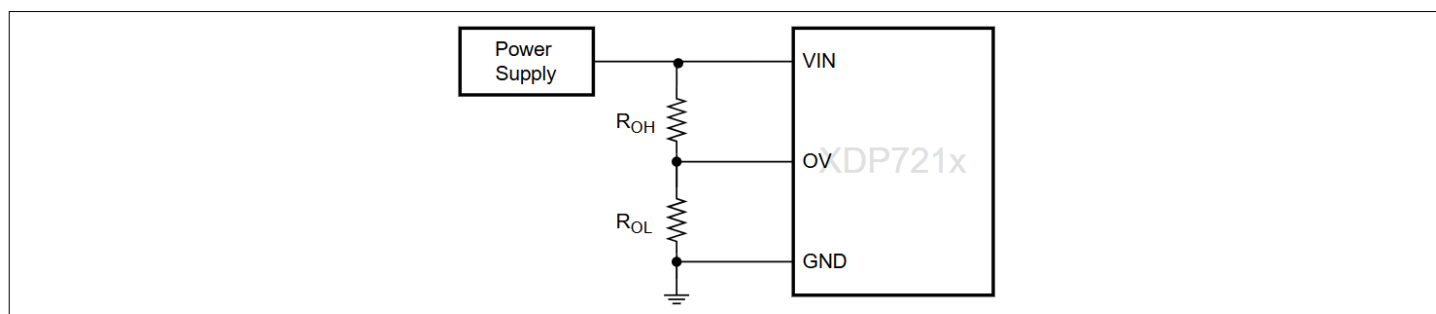

Figure 6 Input overvoltage protection
Similar to input undervoltage, the XDP721 has input overvoltage protection for monitoring the maximum input voltage. When the OV pin voltage rises to/above V_{OV_UTH} , the input overvoltage protection (OV) is triggered. The equation below can be used to calculate the values of the resistor divider network at the OV pin as shown in Figure 6.